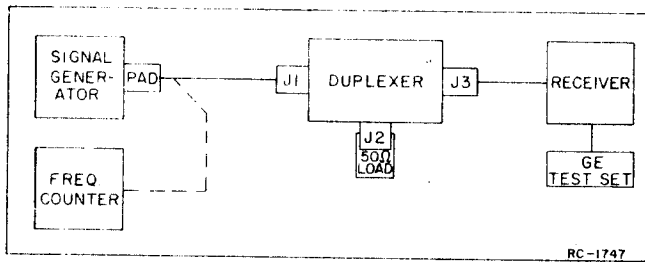

Figure 3 - Test Set-Up
Connect the test equipment as shown in Figure 3, and make the following adjustments:
1. MODIFY 19C402955 DUPLEXER AS SHOWN IN FIG. 3.